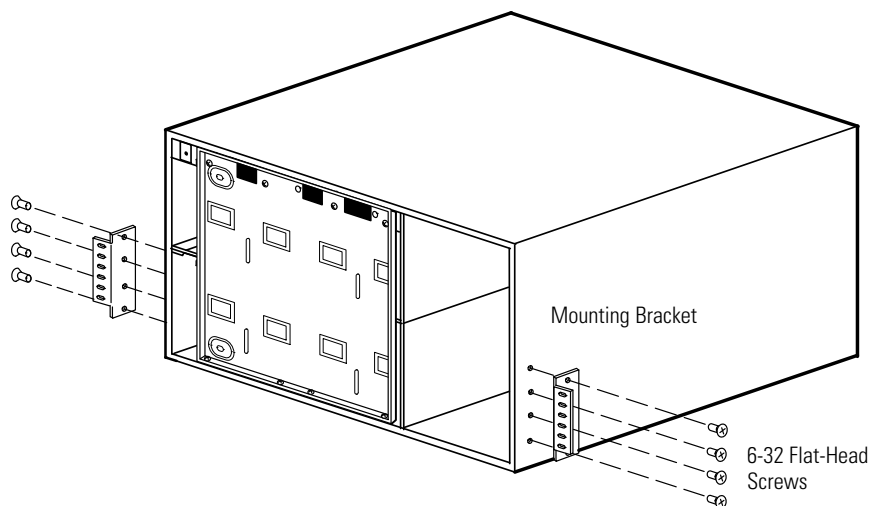

Figure 48. Installing the UPS Mounting Brackets
11. If the mounting brackets are not already installed, align the two mounting brackets with the screw holes on the sides of the UPS and secure with the supplied 6-32 flat-head screws (see Figure 48).